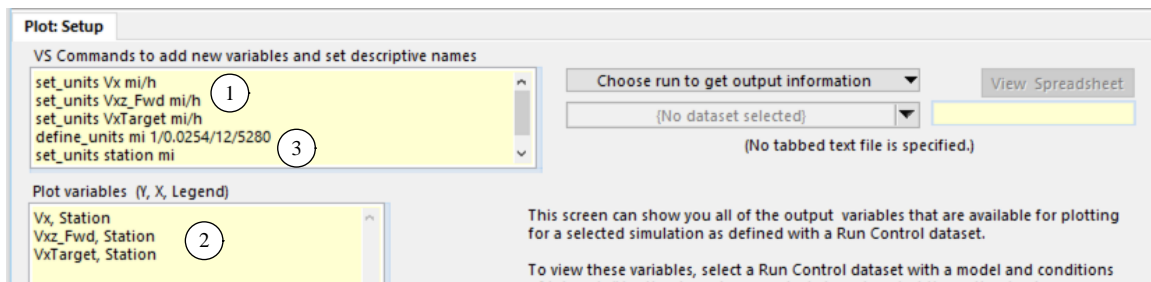

Figure 9. Defining new units (mile) and setting station to use them.
Going back to the **Plot Setup** screen for the plots shown (Figure 9), we add two lines (3): a `DEFINE_UNITS` command to define `mi` as miles, and a `SET_UNITS` command to set the units of the output variable `Station` to miles. In defining the units, the gain divides by 0.0254 (meters per inch), 12 (inches per foot), and 5280 (feet per mile).